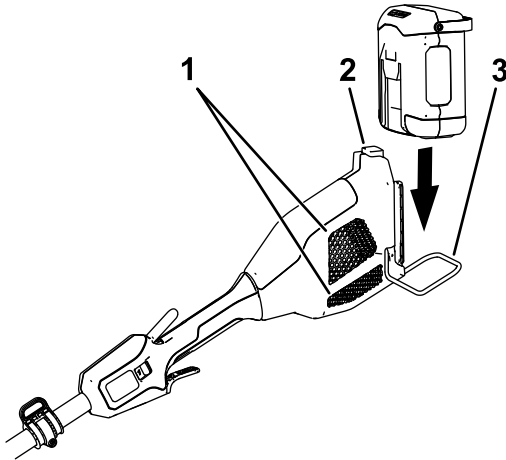

Figure 8
2. Ensure that the rod guard is lowered and align the cavity in the battery pack with the tongue on the handle housing (Figure 8).
3. Push the battery pack into the handle until the battery locks into the latch (Figure 8).